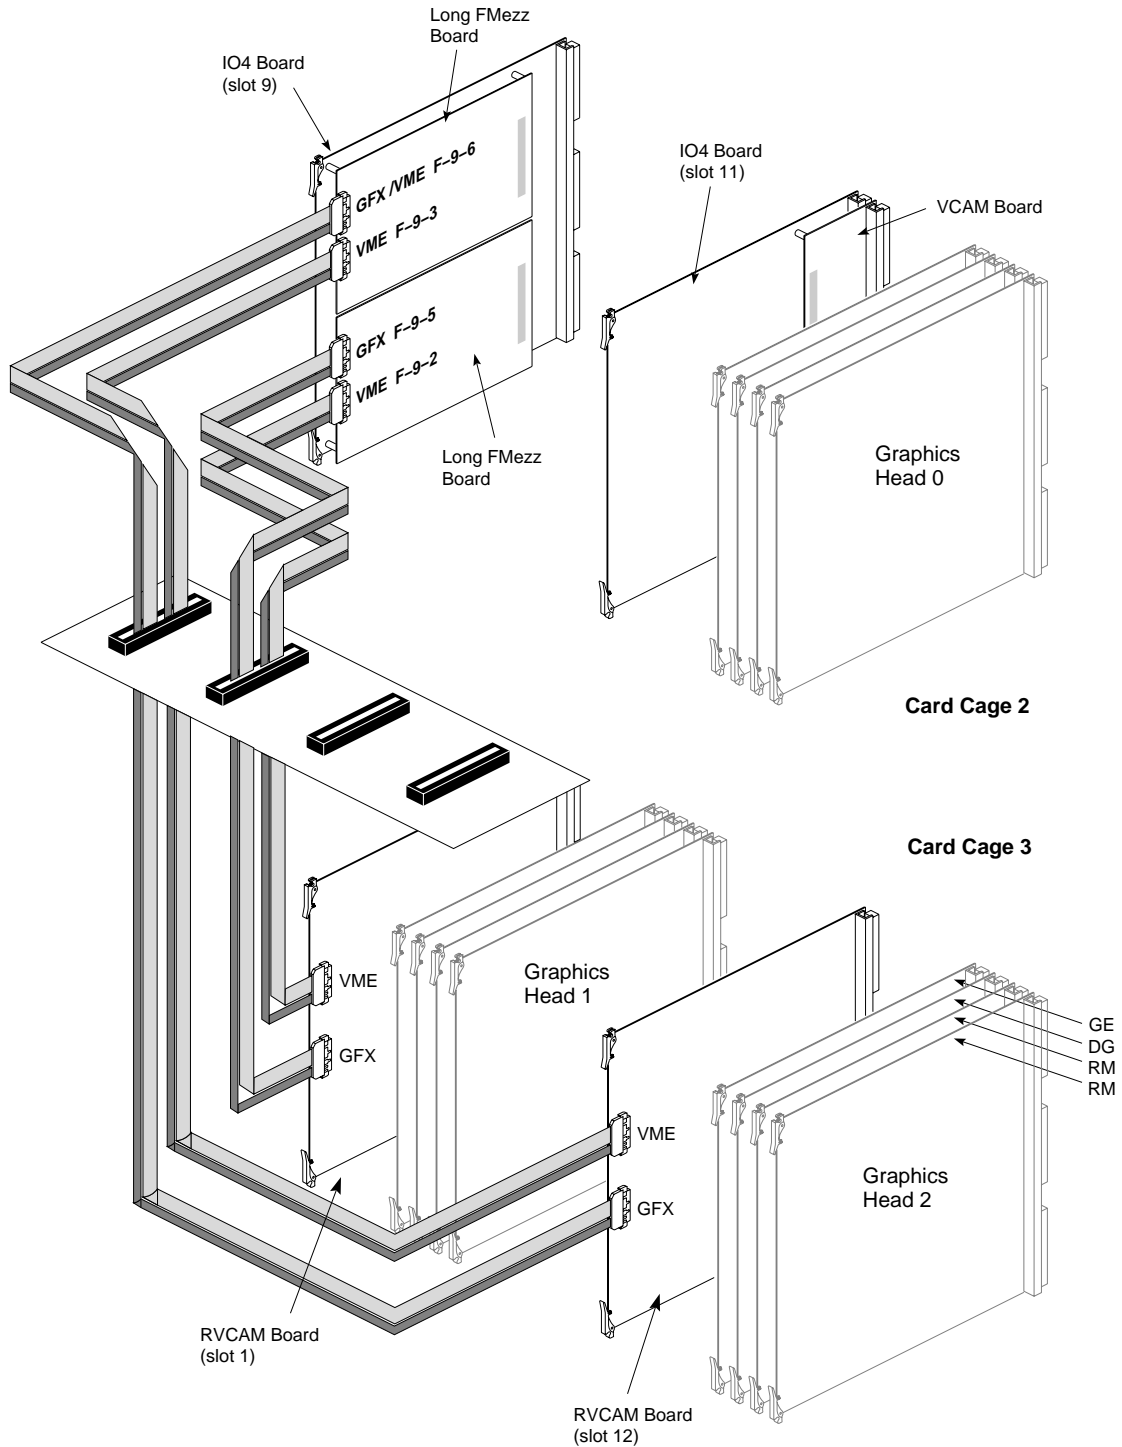

Figure 3-61 Cabling for Two Additional Graphics Pipes in an Onyx Cardcage 3
4. Working from the front of the chassis, connect the four separate VMEbuses by installing jumper boards in the locations called out in Figure 3-61. Install a single terminator board as shown.